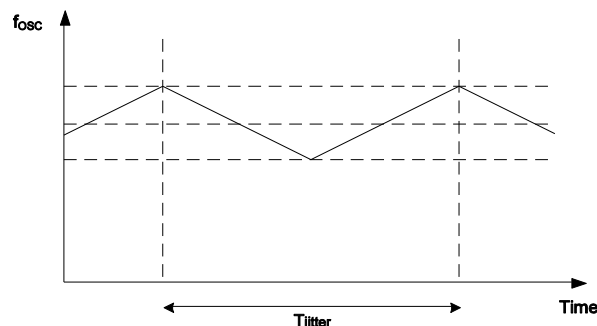

Figure 3: Frequency Jitter
A controlled current sourced (fixed at 2.72μA when  $V_{FB} = 2V$ ) charges the internal  $C_{OSC}$  capacitor. Comparing the capacitor voltage to the TIMER voltage determines the switching frequency. Frequency jitter is accomplished by varying  $V_{TIMER}$  between 3.2V and 2.8V (see Figure 3). Determine  $T_{jitter}$  with Equation (1):